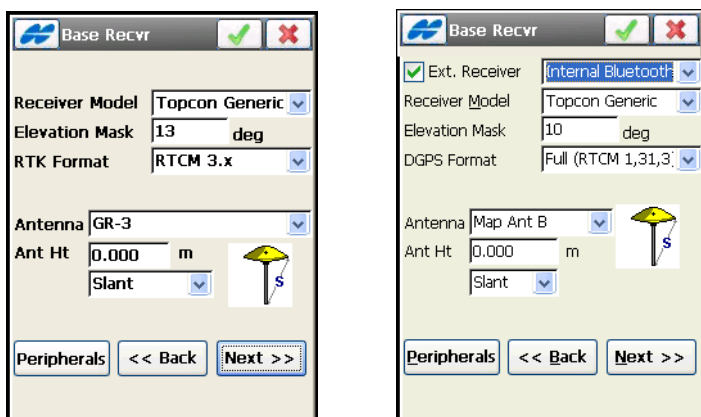

Figure 3-7. Base Receiver
- **Next** – opens the **Base Receiver** screen (Figure 3-7 on page 3-9).
For RTK and RT DGPS (with a User Base) surveys, the *Base Recvr* screen contains the following parameters for configuring a Base receiver and antenna (Figure 3-7).
TopSURV on GMS-2, GMS-2 Pro and GRS-1 allows selection of an external receiver with connection mode: cable, external, or internal Bluetooth Module (Figure 3-7).